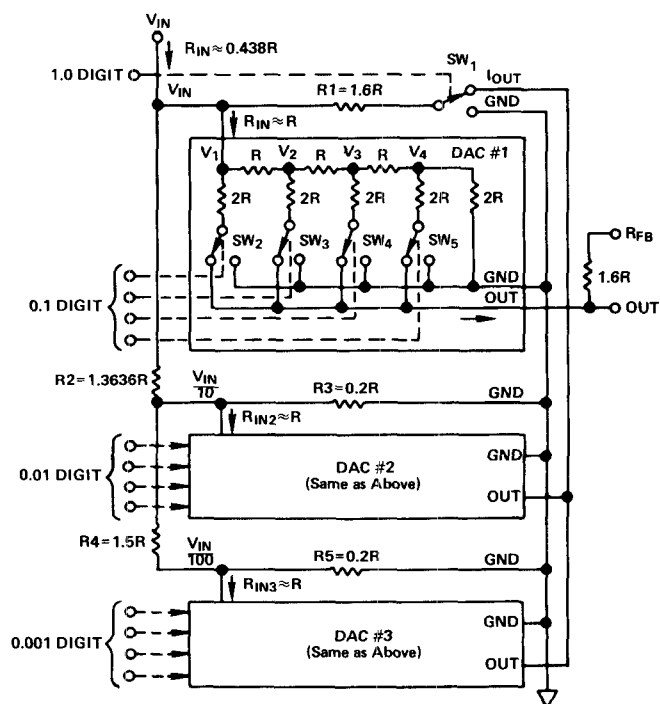

Figure 1. AD7525 Circuit Diagram
Referring to Figure 1, the "1.0 Digit" is a 1-bit multiplying DAC (composed of SW_1 and R_1) while the 0.1, 0.01, and 0.001 digits are 4-bit multiplying DAC's (DAC1, DAC2, and DAC3) connected by 10:1 dividers (composed of R_{IN2} , R_2 , R_3 and R_{IN3} , R_4 , R_5).
2. Apply +10V to the V_{IN} input of Figure 1.